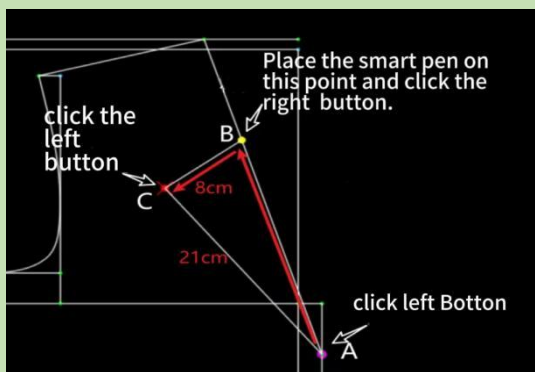

Figure4-45
1. Click on point A. ( Figure4-45 ) .
2. Move the mouse to point B. ( Figure4-45 ) , Click the right button and then move the mouse.
3. Move the mouse to point C ( Figure4-45 ) Click the left button